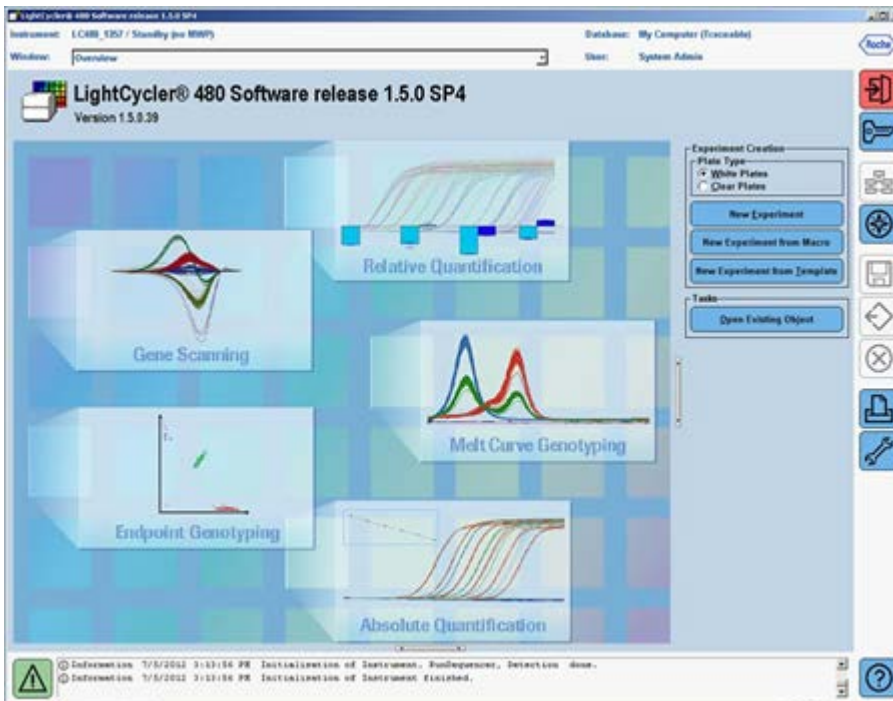

Figure 1. "Overview" window.
4. In the “Overview” window (Figure 1), click the “New Experiment” button on the right-hand side of the window to launch the “Run” module.